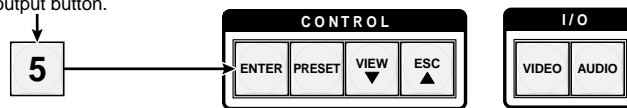

Figure 3-74 — Exit Serial Port and Audio/RS-232 Input Configuration mode
4. Press and release an output button to exit the *Serial Port and Audio/RS-232 Input Configuration* mode (figure 3-74).